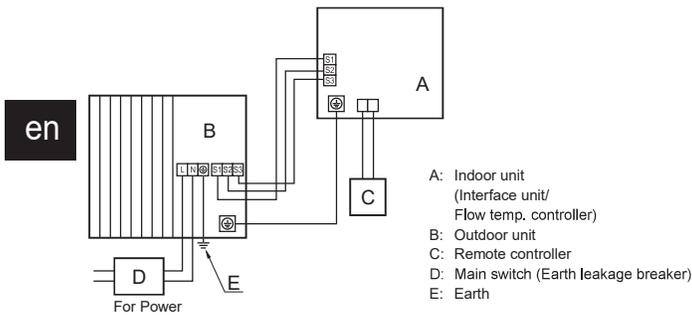
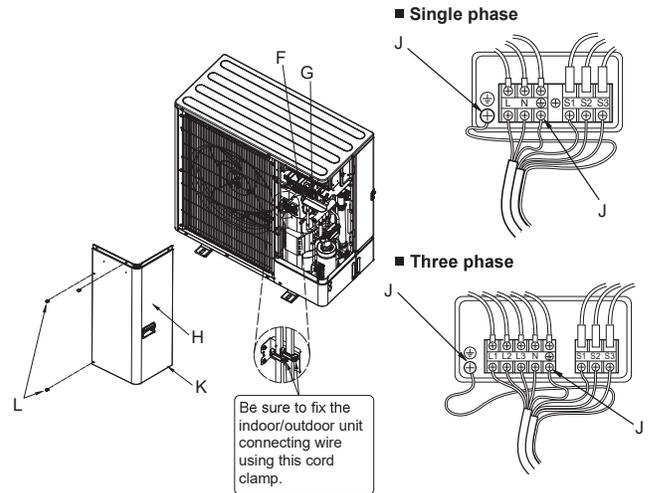

Fig. 7-1
Fig. 7-2
### 7.1. Outdoor unit (Fig. 7-1, Fig. 7-2)
- (1) Remove the service panel.
- (2) Wire the cables referring to the Fig. 7-1 and the Fig. 7-2.